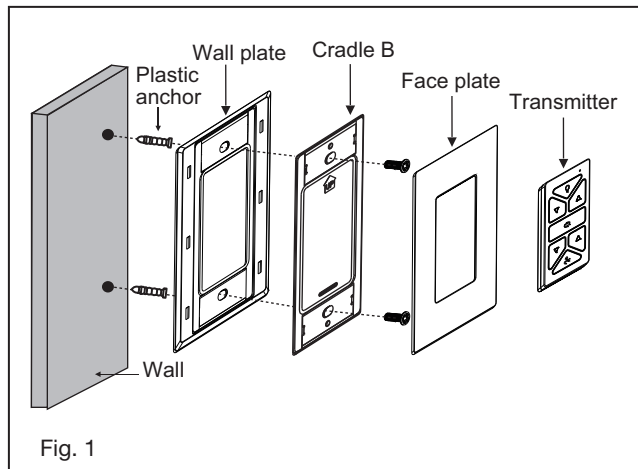

Fig. 1
- 1 Remove ball from downrod by loosening set screw in the side of the ball. Slide ball down and remove ball pin; remove ball. (Fig. 1)
1. Insert the receiver into the ceiling mounting bracket with the flat side of the receiver facing the ceiling. (Fig. 1) For best performance, make sure the Black Antenna, on the end of the receiver, remains extended and not tangled with any of the electrical wires.
- 1 Remove one of the three screws on the mounting hub located on the fan motor. Loosen the other 2 screws. (Do not remove) (Fig. 1)
- 1 Select a desired location. Use the wall plate to mark the location of the mounting holes. Plastic wall anchors or mounting screws are needed application. (Fig. 1)
Remove the panel from the transmitter and then install one 2032 battery (included). You need to use a screwdriver to open or close the battery cover. To prevent damage to transmitter, remove the battery if not use for long periods of time (Fig. 1)